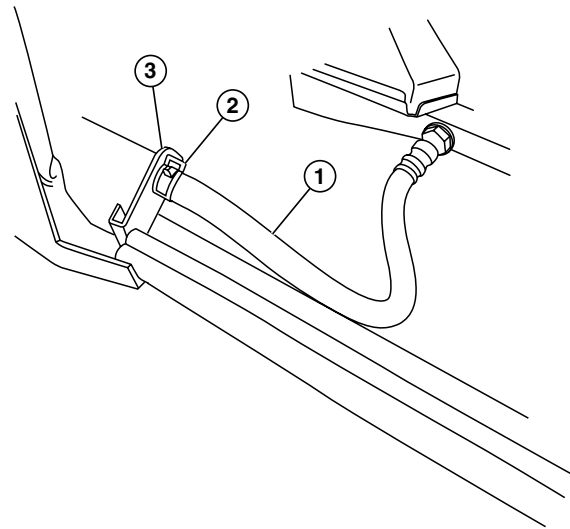

Figure 13
6. Loosen hose clamp on oil drain hose and slide drain hose off retaining pin. (Figure 13)